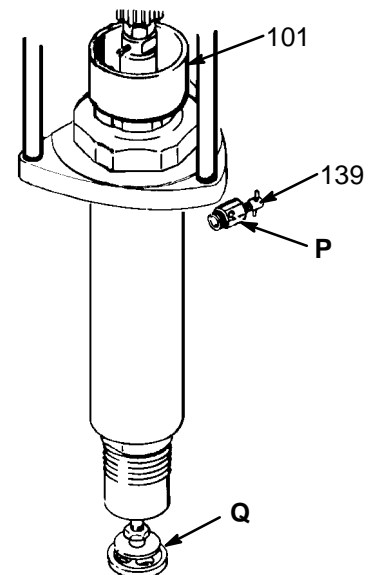

Fig 2
1. Be sure the air regulator (H) is closed. Then open the bleed-type master air valve (G).
4. If the pump fails to prime properly, open the bleeder valve (139) slightly. Do not open it all the way; the handle can come off. Cover the bleeder valve hole with something **other than your hand or fingers** and use the hole as a priming valve until the fluid appears at the hole. See Fig 2. Close the bleeder valve.